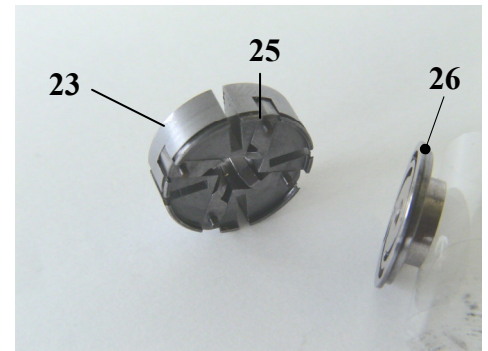

Fig. 14
- The guide plate **(23)**, the centering jaws **(25)** and the helixes **(26)** can now be removed together Fig. 14.